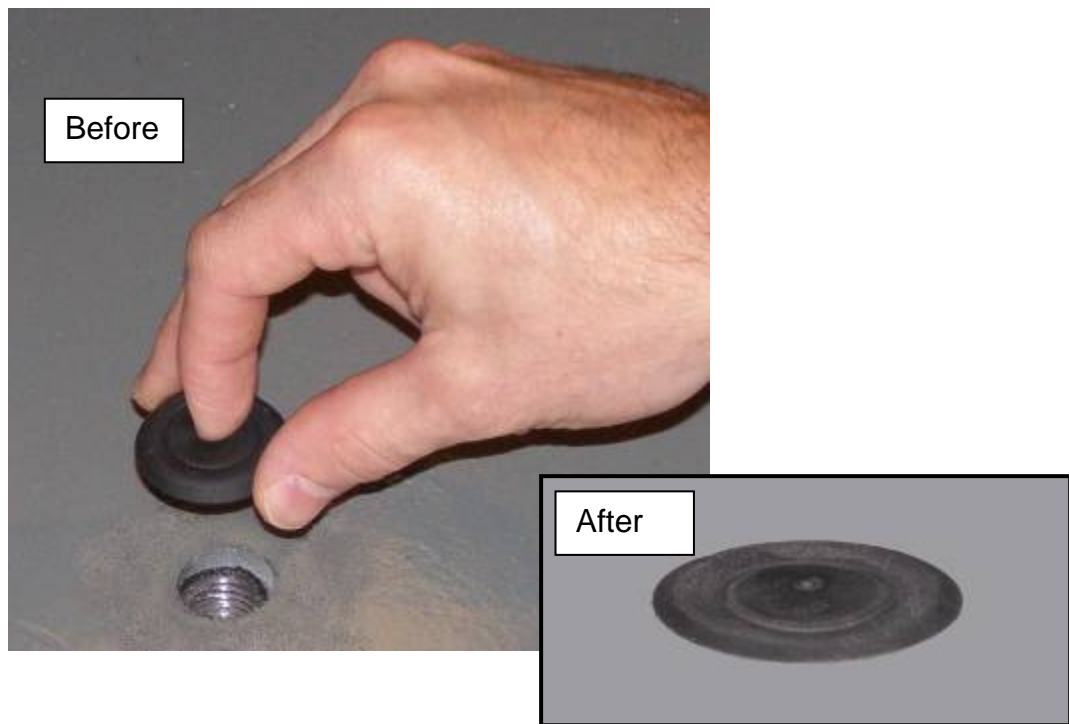

Figure 20 Plugging Holes in Deck
3. Install the plastic plugs provided in all lifting eye holes (**Figure 20**).